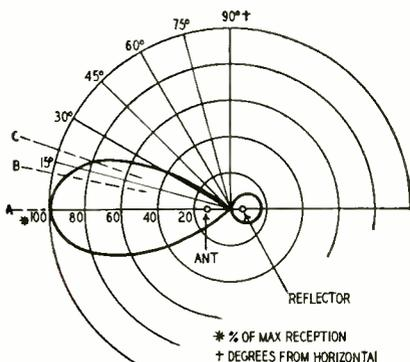
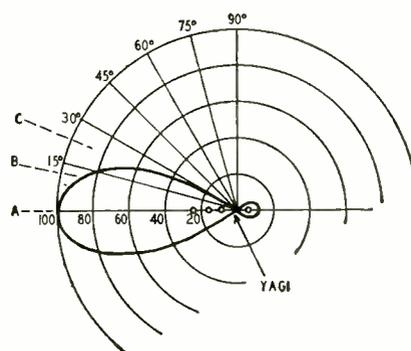

Fig. 1—Vertical-directivity pattern of a horizontal dipole with reflector. The principal lobe offers little discrimination against signals from *B* and *C*.
Fig. 2—Narrower vertical-directivity pattern obtained by adding director elements. The response to signals arriving from *C* has been reduced about 50%.
1. Broad-band preamplifiers and output amplifiers. One example is the Spencer-Kennedy Laboratories' "distributed" amplifier, used without either channel converters or a.g.c. The number of broad-band preamplifiers connected in cascade at the antenna site depends, naturally, on the incoming-signal level, amplifier gain, and the output level required to overcome cable losses and deliver adequate signal to the next amplifier. As many as three SKL broad-band amplifiers have been cascaded at the antenna site. See Fig. 1.
**Fig. 1—Block diagram of SKL (Spencer-Kennedy Laboratories) community-TV antenna system. Individual-channel antennas feed up to three cascaded broadband amplifiers through a matching network.**
Several factors must be considered. A dipole antenna with a reflector has the vertical-directivity pattern shown in Fig. 1 (looking at the antenna from the side). Single-bay antennas have a fairly broad pickup so that the reduction in strength for a signal arriving at an angle *B* or *C* is not too severe. When directors are added to such an antenna to form a Yagi the pattern elongates and becomes narrower as shown in Fig. 2. Here an upward tilt would be very helpful if signals arrive at an angle above the horizontal.